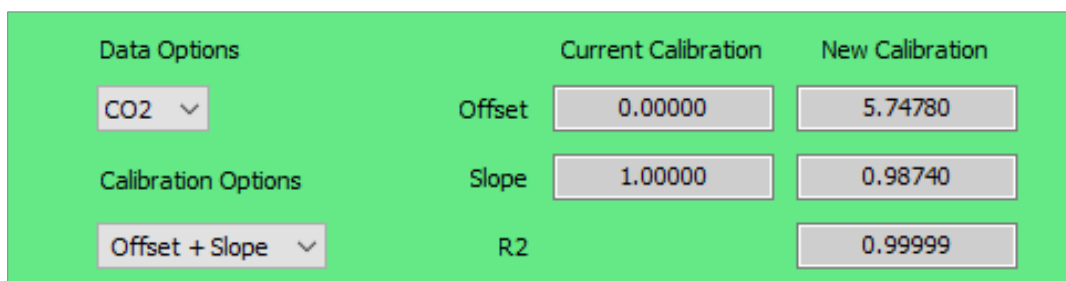

Figure 39: Calibration Output Section of Data Recal Software Utility GUI
2. Calibration Output section (Figure 39):